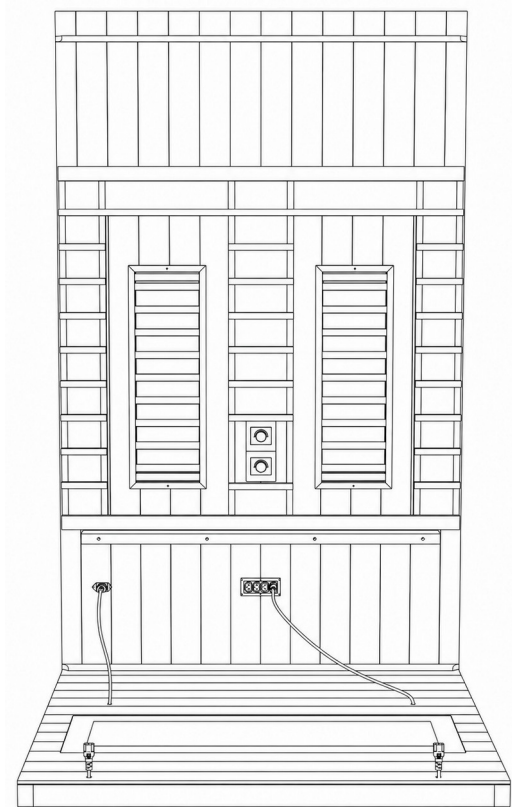

Figure 5. Back Panel (B) standing on the rear edge of the Floor Panel, with its floor level cords hanging free.
- With two people lifting, raise the Back Panel (B) and align it with the rear edge of the Floor Panel as shown in Figure 5, so its base sits squarely on the Floor Panel. Keep fingers clear of the bottom edge as the panel settles.